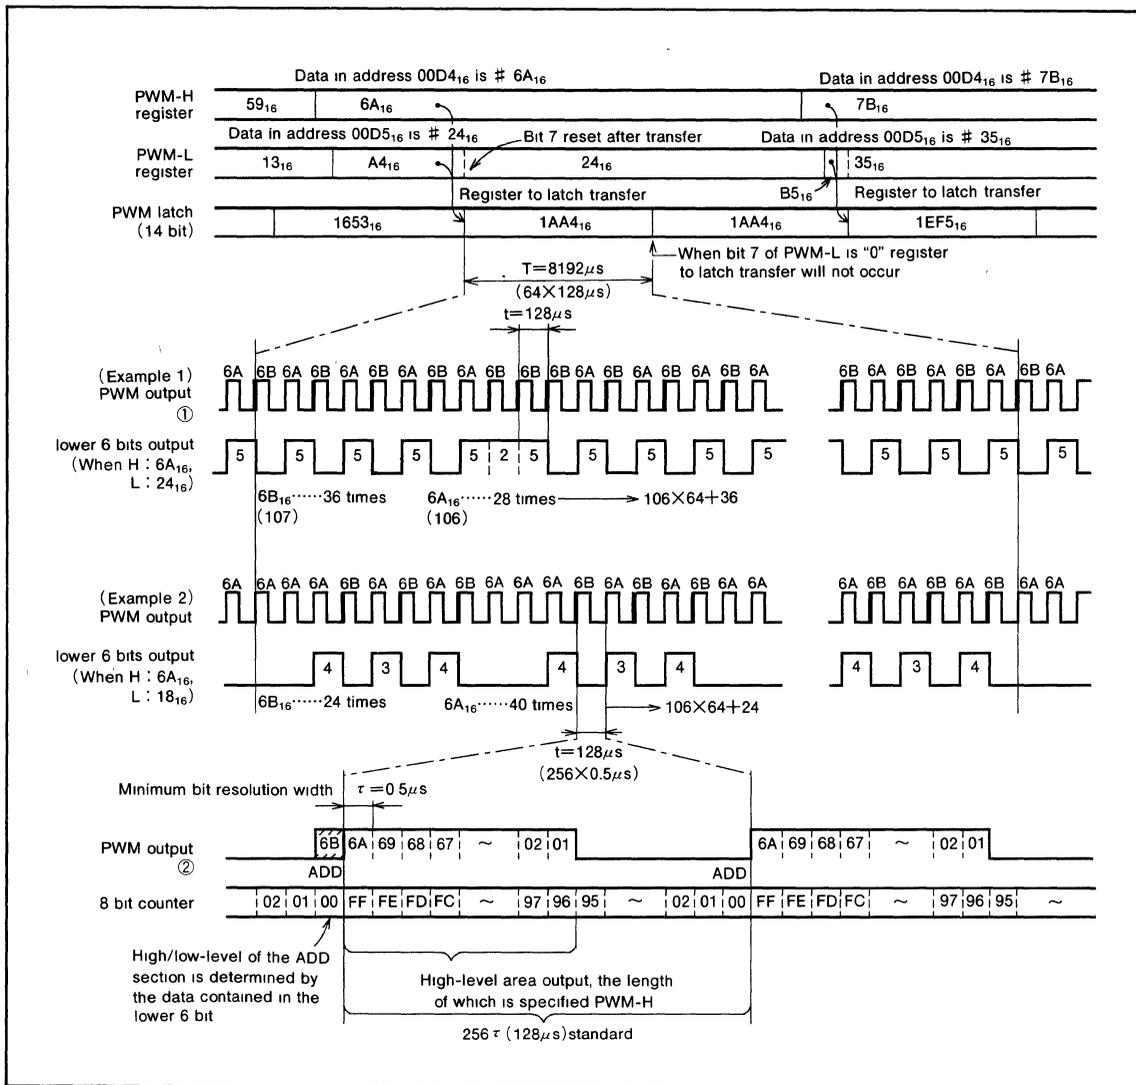

Fig.15 14-bit PWM timing diagram
The timing diagram of the 14-bit PWM is shown in Figure 15. The 14-bit PWM divides the data within the PWM latch into the lower 6 bits and higher 8 bits.
A high-level area with a length N times τ is output every short area of $t=256 \times \tau = 128\mu$ s as determined by data N of the higher 8 bits. (Refer to PWM output ② in the lower part of Figure 15.)